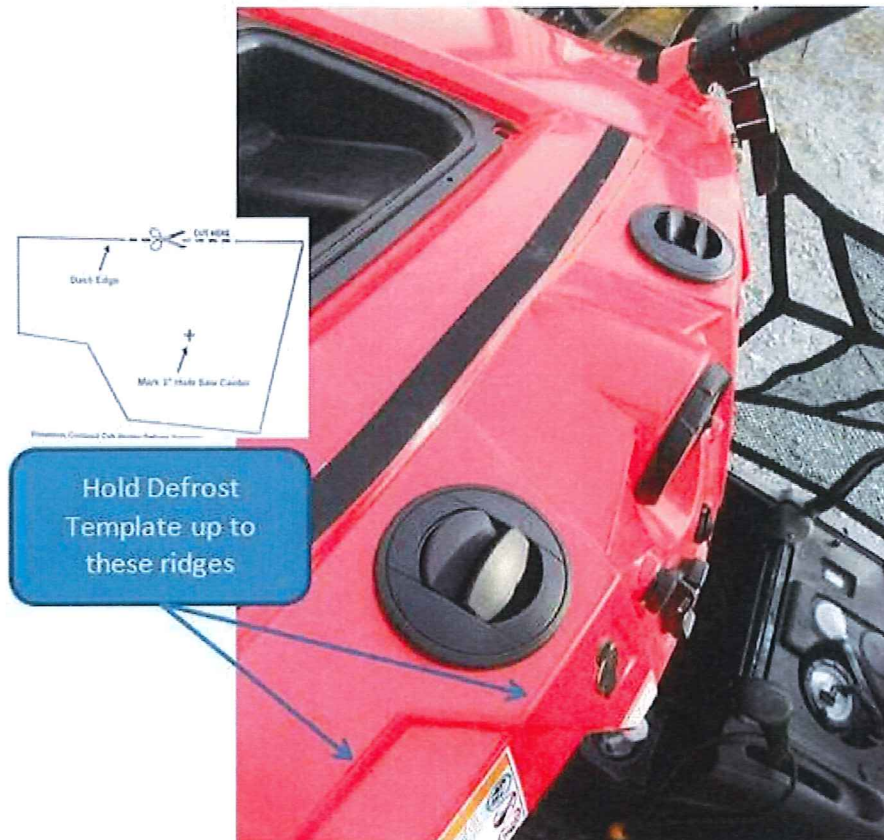

Figure 5
1. Using the Defrost Kit Dash Template (Template 2) and supplied 3" Hole Saw and Pilot Bit, drill holes for the Vents as shown in Figure 5.